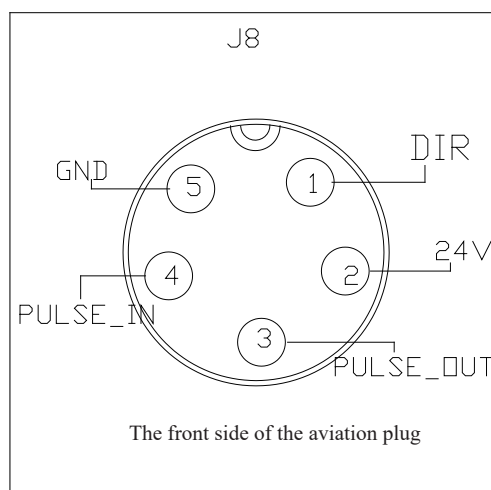

Figure 7
4. B interface control EFG-20 electric gripper diagram, as shown in Figure 7